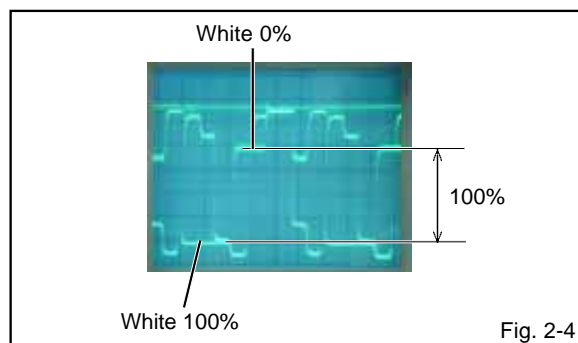

Fig. 2-4
6. Press the LEFT/RIGHT button on the remote control until the red color level is adjusted to $110 \pm 5\%$ of the white level. **(Refer to Fig. 2-4)**